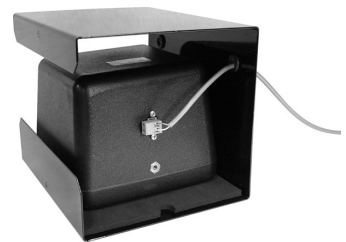

Figure 4
2. Route the speaker cable through either of the holes in the top section of the SPE1 Speaker Enclosure, as shown in Figure 4 (SP10 shown).
3. Place the speaker inside the enclosure, with its front centered flush against the rubber gasket on the inside of the speaker grill, as shown in Figure 4.
4. Connect the cable to the connector plug that was enclosed with the speaker, and plug it into the speaker as shown in Figure 4.